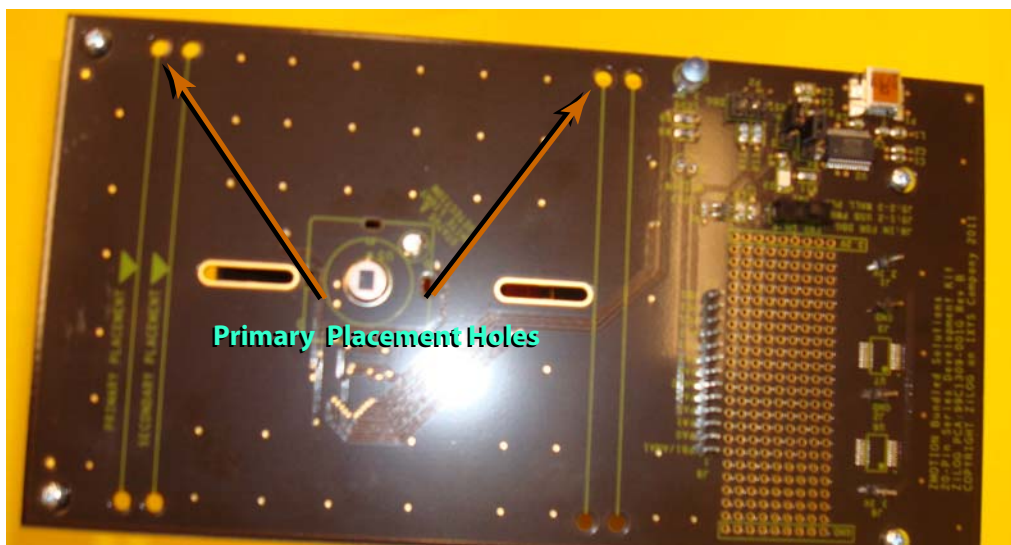

Figure 2. ZMOTION Intrusion Detection Development Board
- **Note:** Attach the Intrusion lens holder to the Board using the primary placement set of holes, which are indicated in Figure 2.
► **Note:** The upper set of holes on the board is used to attach the 1.2" lens holders (see Figure 2).